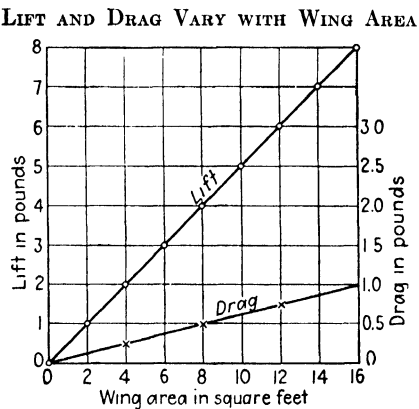

Fig. 148.
4. The lift of an airplane, as well as the drag, depends among other factors upon the area of the wing. The graph in Fig. 148 shows that the larger the area of the wing, the greater will be the lift and the greater the drag. Why are there two vertical axes? Draw up a table of data to show just how the lift and drag change with increased wing area.